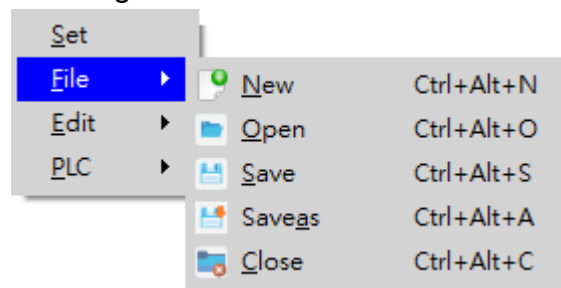

Fig. 74 File Sub Menu
- ① Comment of the element with focus.
- ② Current mode.
- ③ Progress bar for time-consuming task.
- ④ Jump to row which is set by ⑤.
- ⑤ Set the row number to jump.
- ⑥ Show row and column of the current focus.
- File sub menu is as Fig. 74.